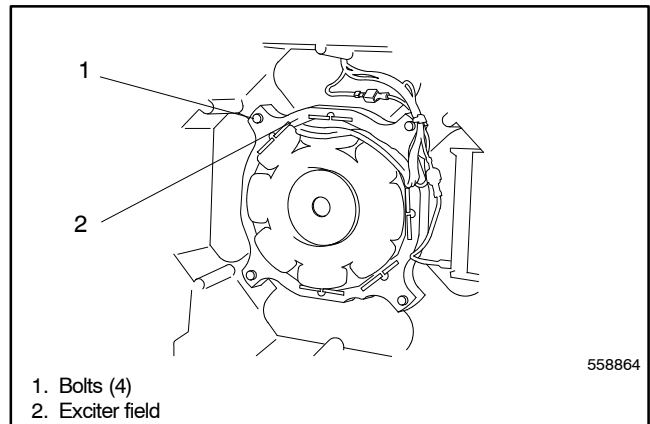

Figure 15-3 Exciter Field Removal
- a. Remove the four bolts to remove the exciter field. See Figure 15-3.